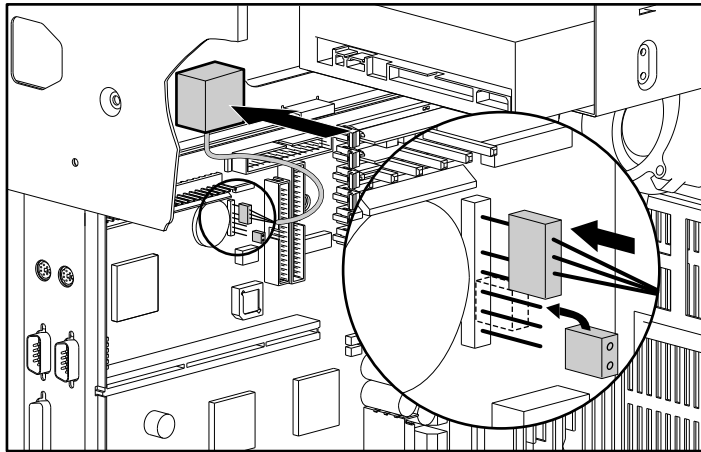

Figure B-1. Plug the battery connector onto pins 1-4 at E2 on the system board.
2. Place the battery and the hook-and-loop fastener strip on the chassis floor, as shown in Figure B-1 above.